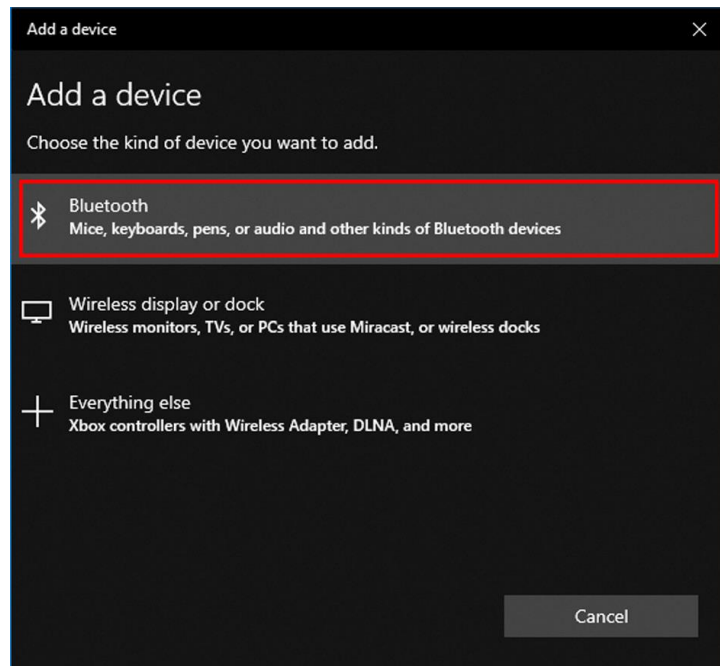

Figure A11 – Selecting the type of device to add
4.3. Select the type of device you want to add to the list of devices that can be connected to your PC (Figure A11).